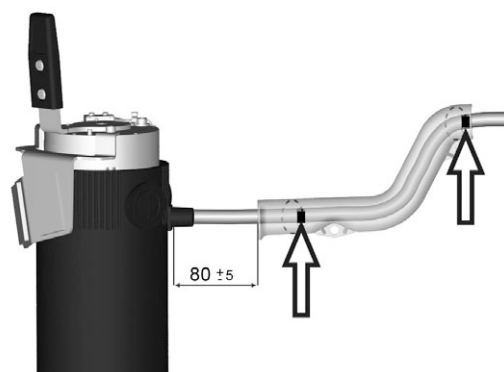

Figure 59. Fitting of the Drive motor cable cover.
2. Fit the cable cover onto the drive motor cable/wheel lock cable. See fig. 59